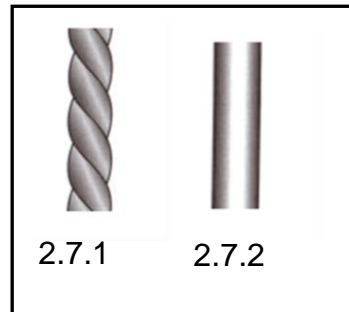

FIGURE 2.7
- 2.7 FIGURE 2.7 below shows two types of reinforcing bars that can be used for reinforcing concrete. Study the figure and name EACH reinforcing bar. Write down the answer next to the number (2.7.1–2.7.2) in the ANSWER BOOK.